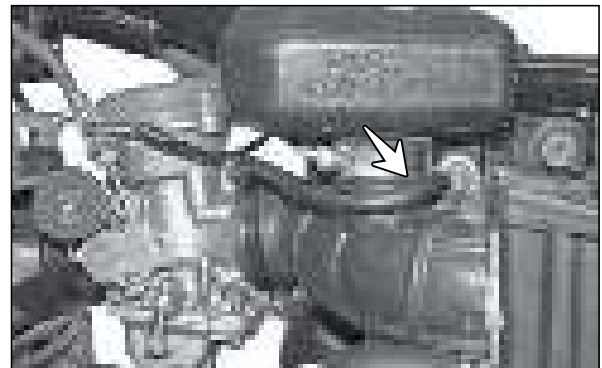

Fig. 4.15
- Dislocate the hose clip and pull out the air vent hose from the air cleaner assembly. (Fig. 4.15)